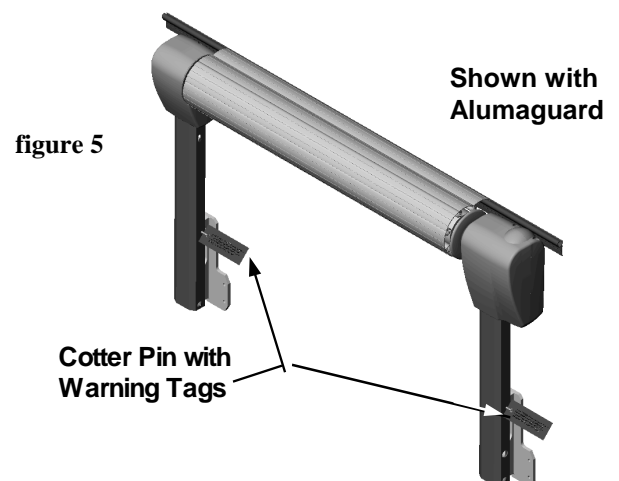

figure 5
H. When the awning arms are attached to the roller assembly they should closely match **figure 5** showing the window awning assembled.
I. It is now safe to remove the Cotter Pin holding the spring loaded arms to the Bracket as shown in **figure 5**.